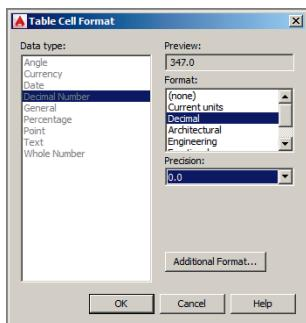

FIGURE 15.28 Formatting a range of cells
6. Select Decimal in the Format list in the Table Cell Format dialog box. Open the Precision drop-down menu, and select 0.0 (see Figure 15.28). Click OK.